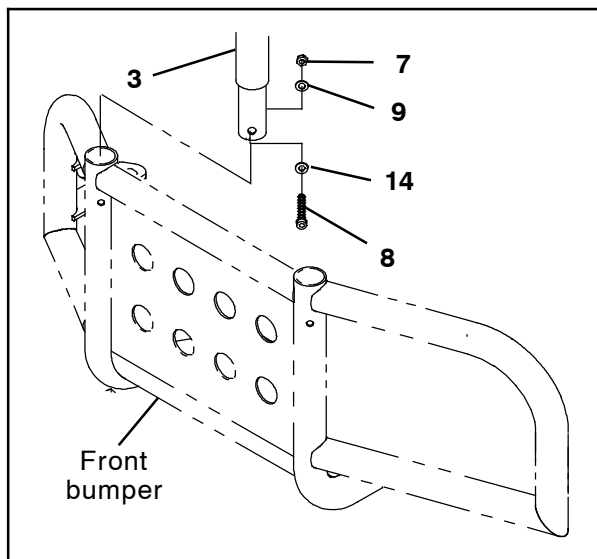
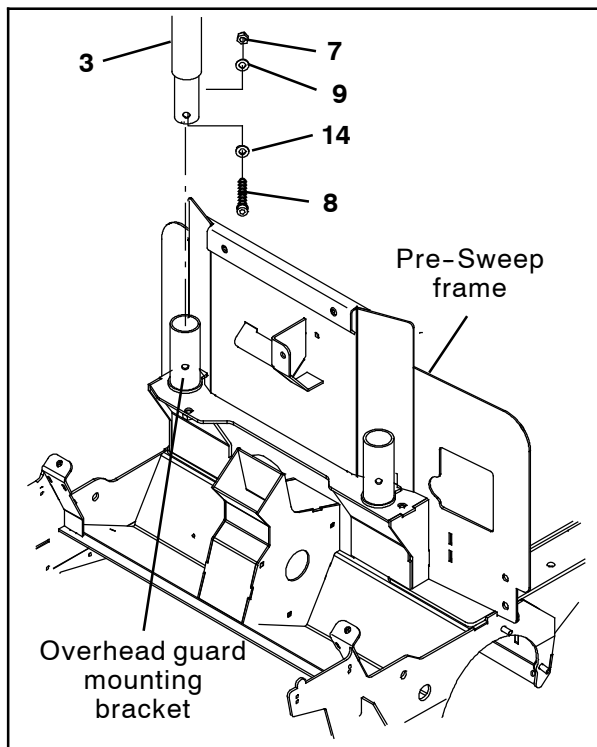

FIG. 6
FIG. 7
**NOTE:** If necessary, move the rear inner corner battery to make additional room to install the overhead guard tube (4) onto the frame of the machine.
Use one M8 socket head screw (8), one flat washer (14), one steel tube (9), and one M8 hex nut (7) to secure the front leg of the overhead guard tube (3) into the front bumper. (Fig. 6)
Use one M8 socket head screw (8), one flat washer (14), one steel tube (9), and one M8 hex nut (7) to secure the front leg of the overhead guard tube (3) into the overhead guard mounting bracket already installed on the Pre-Sweep assembly. (Fig. 7)
11. Tighten all loose hardware to secure the overhead guard kit onto the machine. (Fig. 2, Fig. 3, Fig. 4, Fig. 5, Fig. 6, Fig. 7, Fig. 8, and Fig. 9)